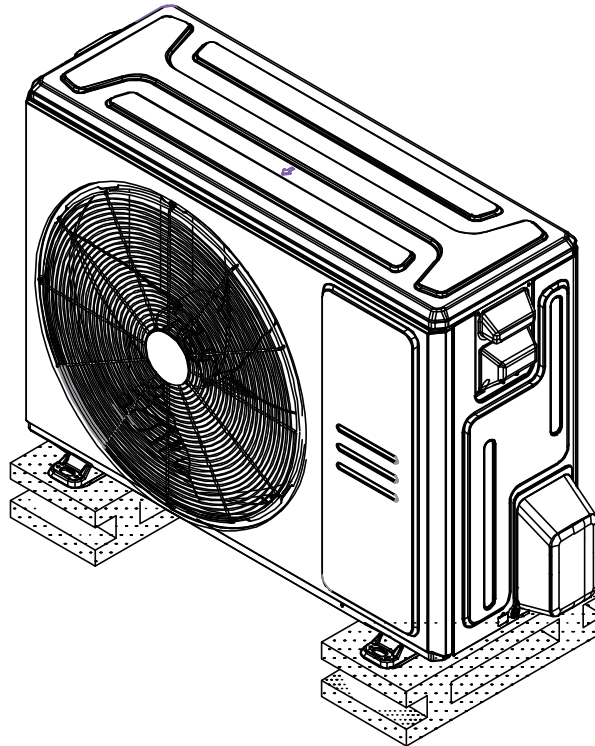

Fig. 2 — Outdoor Unit
- Figure 2 is only a sketch. The actual model may differ slightly.